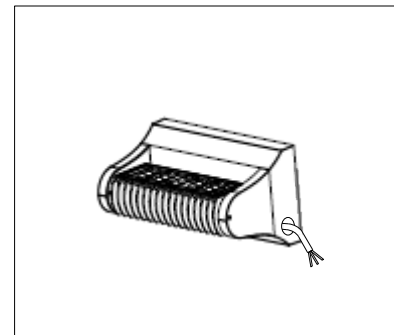

Figure 12
6. Feed the luminaire power wires through the conduit plug hole (see Figure 12).